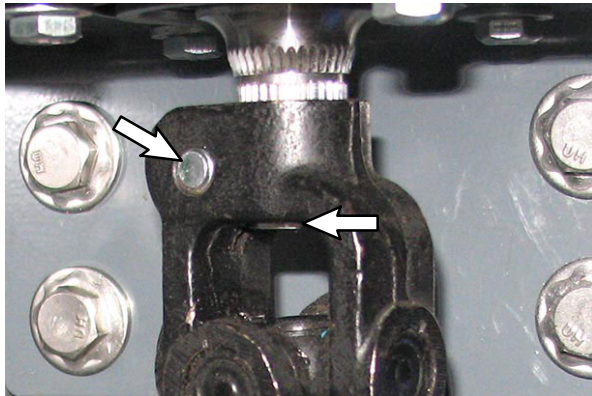

FIG. 43
48. Tap up on the lower power steering shaft (13) up until the power steering motor (10) shaft is flush with the surface on the lower power steering shaft as shown. (Fig. 43)
49. Tighten hardware to secure the lower power steering shaft (13) onto the power steering motor (10) shaft. Torque the SEMS M8 hex screws to 22 Nm (16 ft lbs). (Fig. 43)